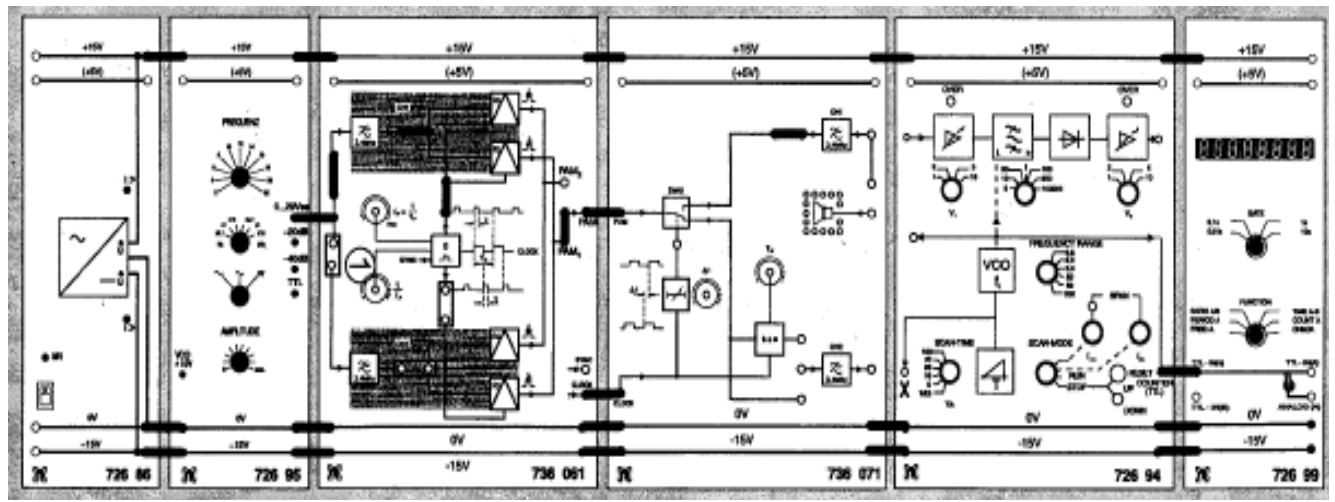

Figure 1
- Set up the experiment as specified in the *Figure 1*.